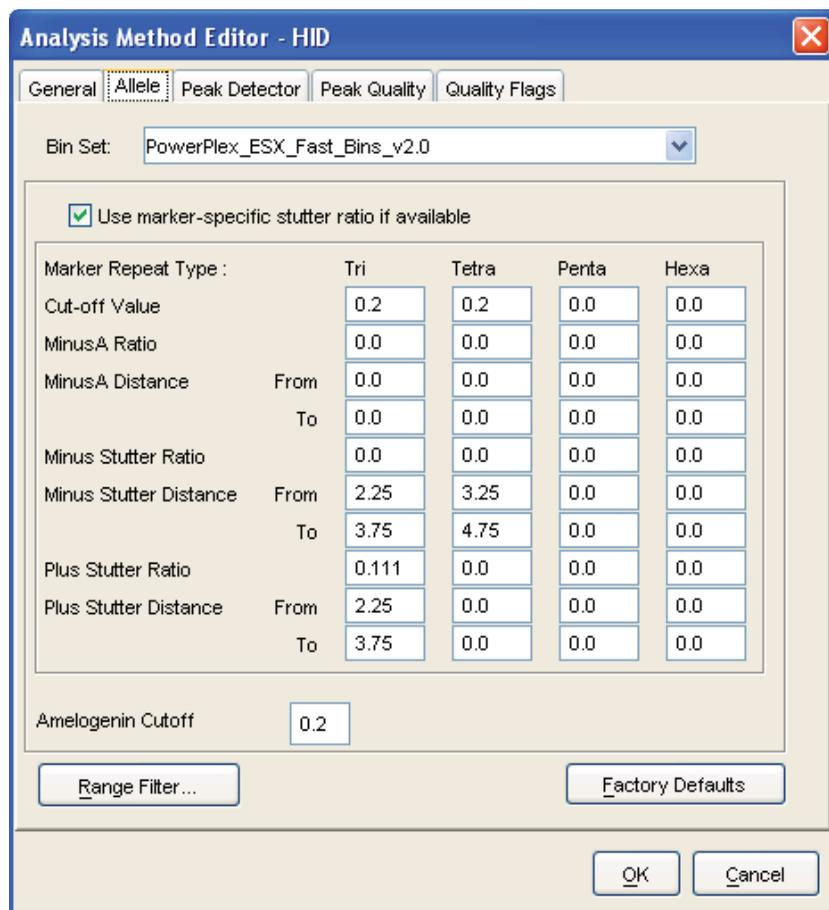

Figure 20. The GeneMapper® ID 'Allele' tab with settings for using a 20% peak filter.
6. Select the 'Allele' tab (Figure 20).
9. Enter the values shown in Figure 20 for proper filtering of peaks when using the PowerPlex® ESX 17 Fast System. For an explanation of the proper usage and effect of these settings, refer to the Applied Biosystems user bulletin titled “*Installation Procedures and New Features for GeneMapper ID Software 3.2*”.